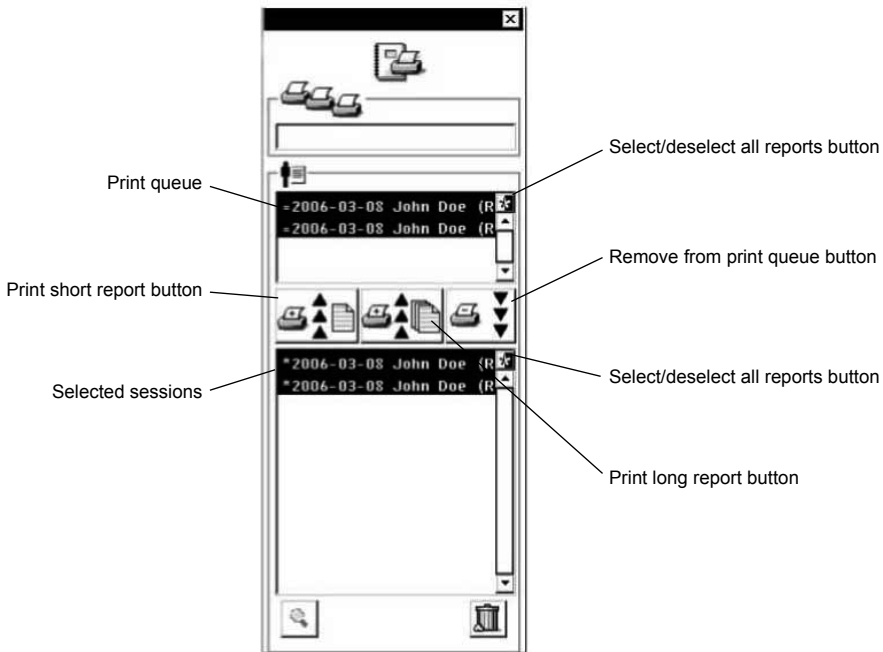

Figure 25. Session data manager screen.
6. Select the **Session data manager** button () from the slider bar. The **Session data manager** screen appears (Figure 25).